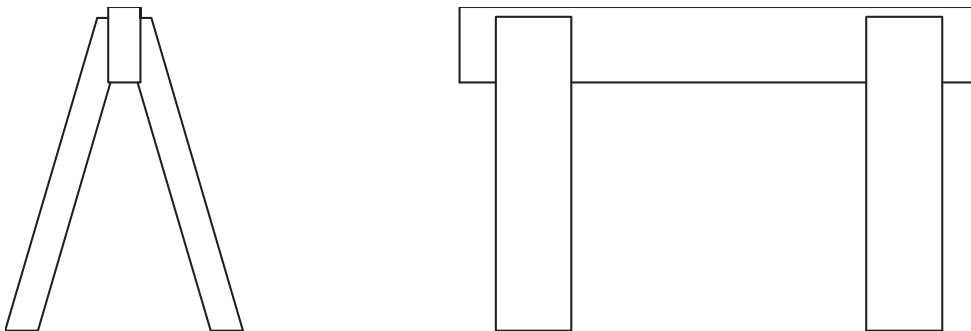

Fig. 4-7
4. Create a new drawing file named **prb4-4.dwg** and store it in the folder named after yourself. Draw the front and side views of the sawhorse shown in Fig. 4-7 by entering the **LINE** command's alias at the keyboard. Be sure to use shortcut methods when reentering the command.